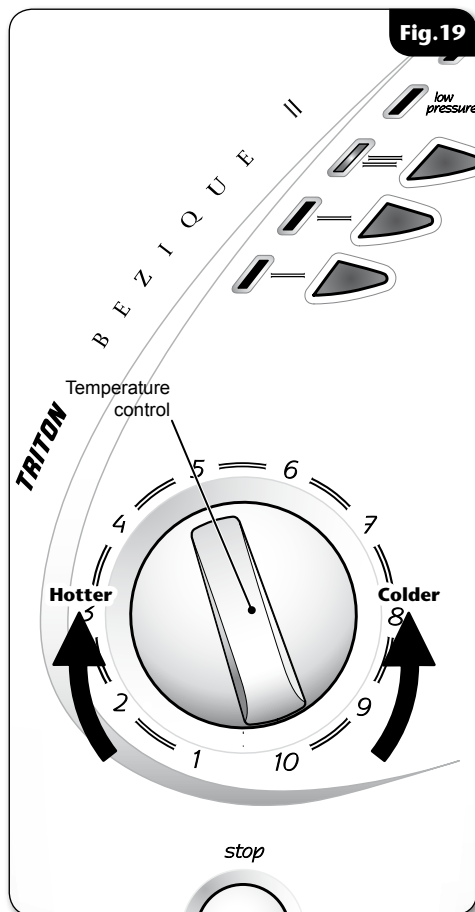

Fig. 19
- The water temperature is altered by increasing or decreasing the flow rate of the water through the shower via the temperature control (**fig.19**).